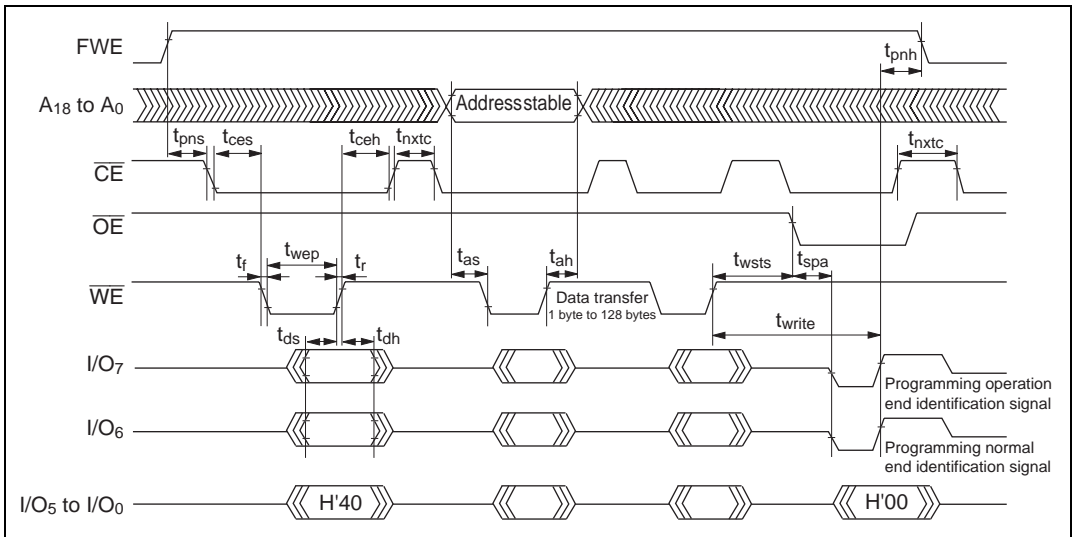

Figure 19.82 Auto-Program Mode Timing Waveforms
- Memory address transfer is executed in the second cycle (figure 19.82). Do not perform transfer later than the second cycle.